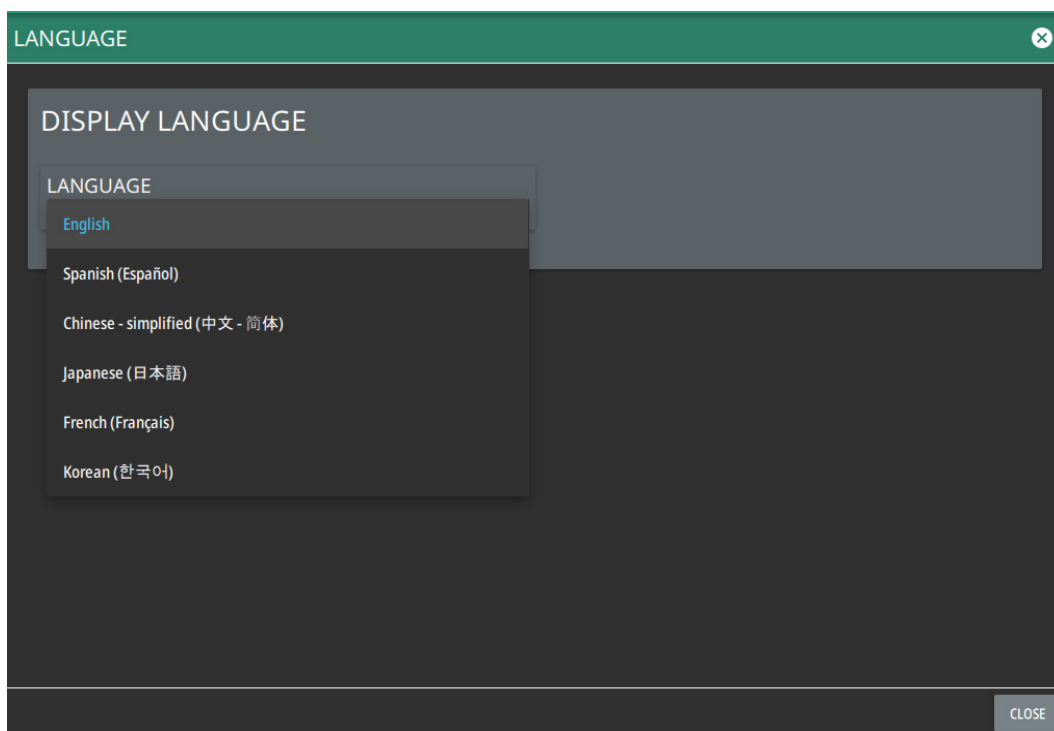

Figure 2-35. Language Settings
3. Select the LANGUAGE drop-down menu and select a desired display language as shown in the Figure 2-35.